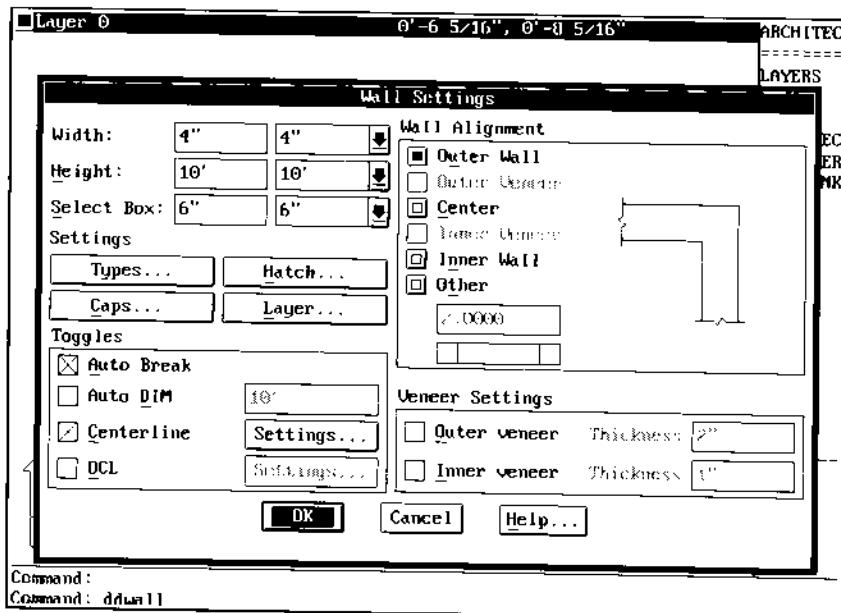

Figure 27.
2. Change the Wall Alignment to Wall Outer (WO) and Wall Width to 3.5" from the Wall Settings dialog box as shown in Figure 27.